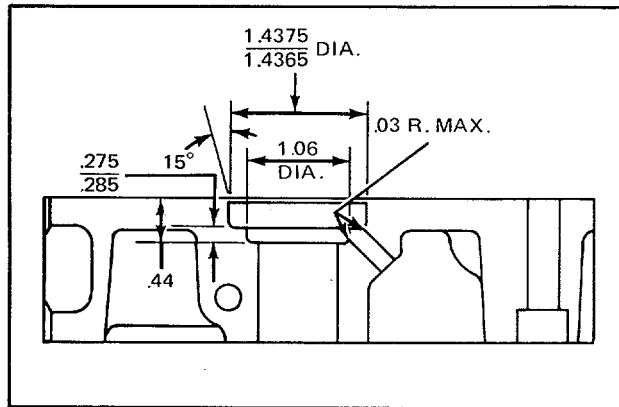

Figure 4. End Plate Oil Drain
10. Remove the finish cutting tool and install an end mill to machine the additional 1.060 to 1.125- inches- diameter counterbore. The total depth of the combined counterbores is 0.440 inch (Fig. 4). The additional counter- bore provides proper oil drain back from the oil seal area.